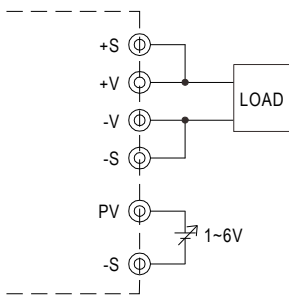

Fig. 3.1 Add on 1~6V external voltage
- (1) PV(PIN3) and PS(PIN4) of CN1 or CN2 must be disconnected if "Output Voltage TRIM" function is used. Otherwise, the internal electrical components may be damaged, and the power supply unit may thus be out of order.
- (2) Connecting an external DC source between PV & -S on CN1 or CN2, and +S & +V, -S & -V also need to be connected that is shown in Fig. 3.1.